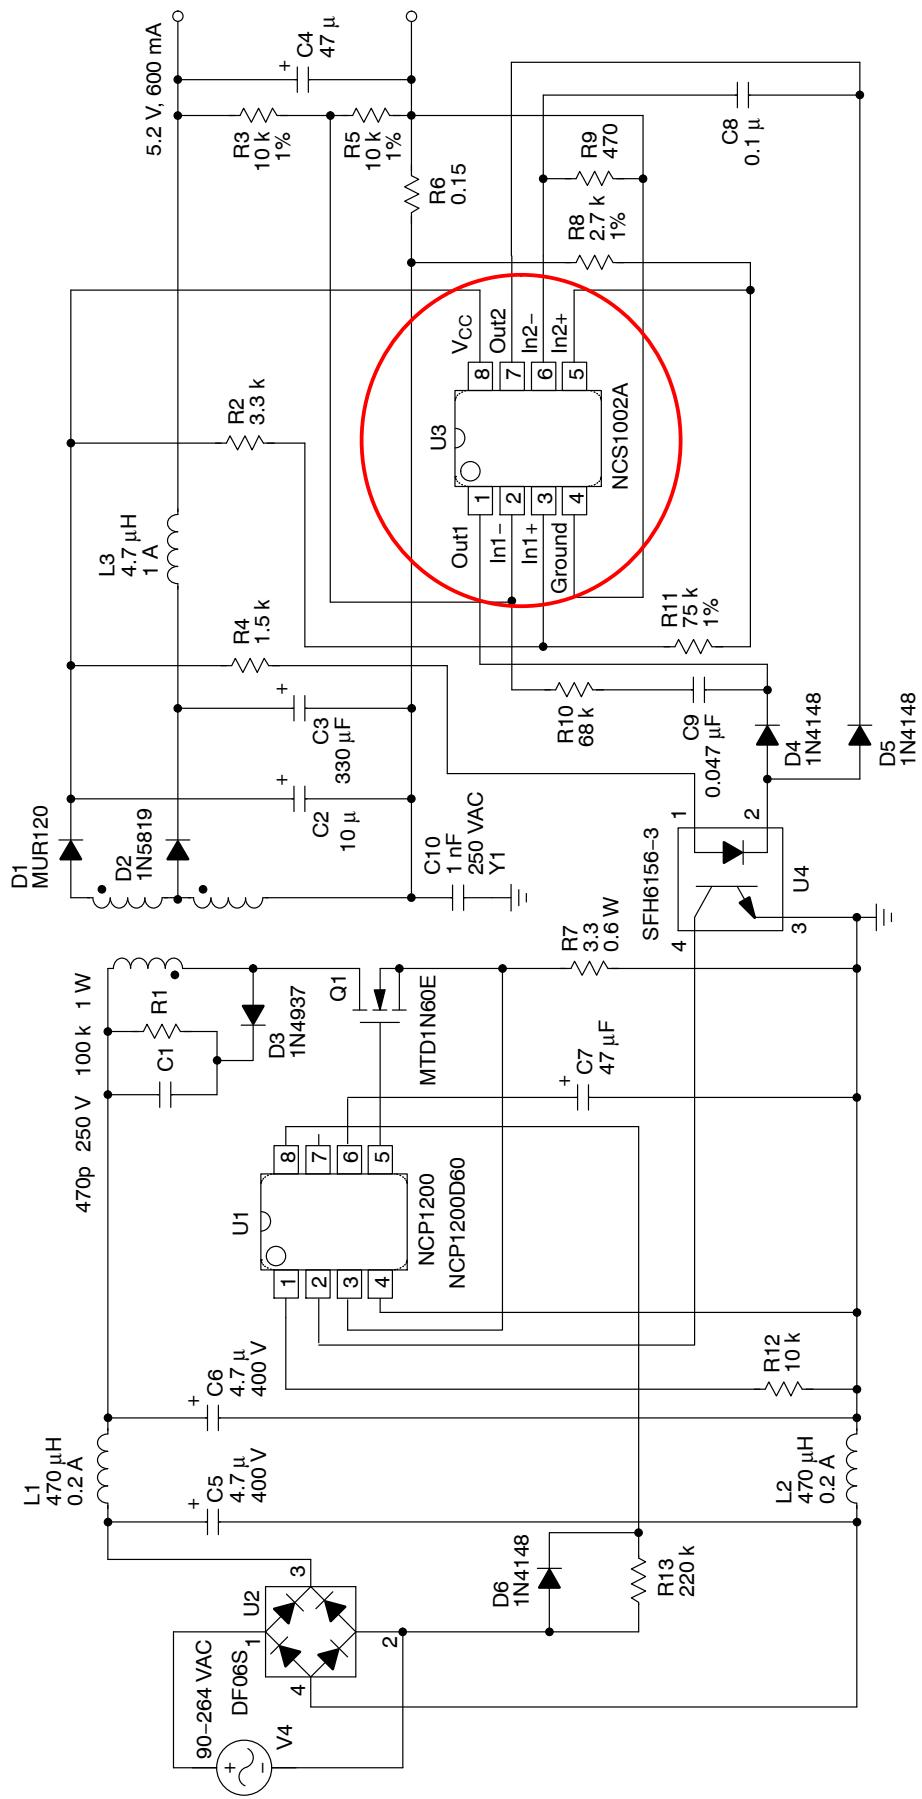

Figure 1. AC Adapter Application
**Figure 1. Input Offset Voltage vs. Temperature****Figure 2. IB vs. Temperature****Figure 3. Vref as a Function of IK****Figure 4. Vref Over Temperature****Figure 5. Ref Dynamic Impedance vs. Temperature**